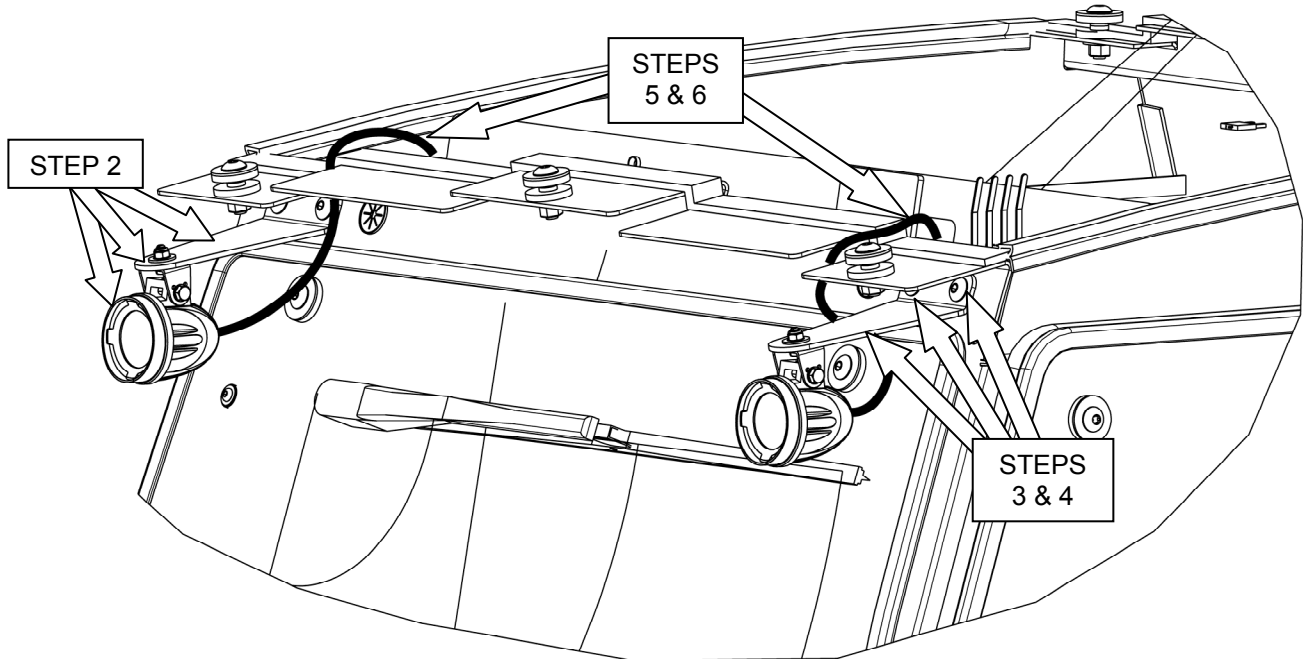

Figure 2
- 2) Secure each work light (13) with $\frac{1}{4}$ " flat washer (2) to light mount bracket (1), using metric hardware supplied with each light (**Figure 2**).
- 3) Remove (4) $\frac{3}{8}$ " hole plugs from front of cab, just above the front window (**Figure 2**).
- 4) Secure each work light with bracket onto front of cab using (**Figure 2**);
- (2) $\frac{5}{16}$ " nylock flange nuts (14)
- 5) Connect mating ends of front lights wire harness (10) to each front light (13).
- 6) Route remaining end of wire harness (10) from each work light to the switch panel fuse block location (**Figure 2**).